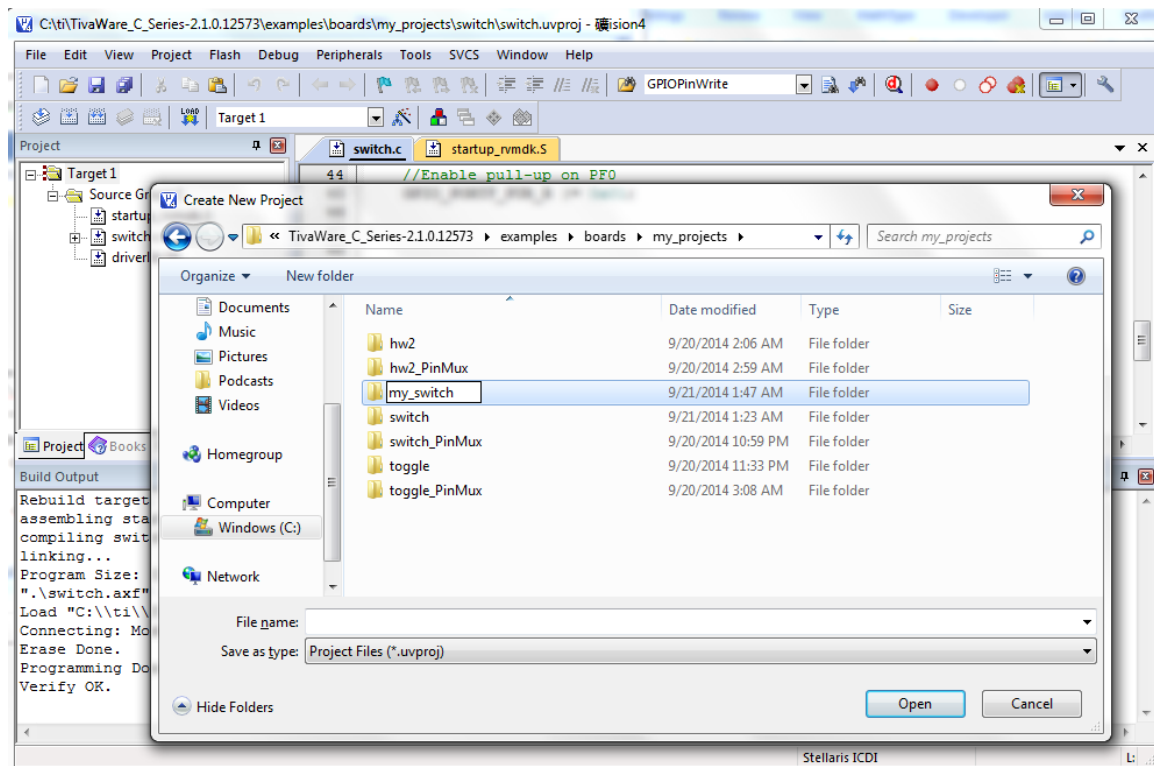
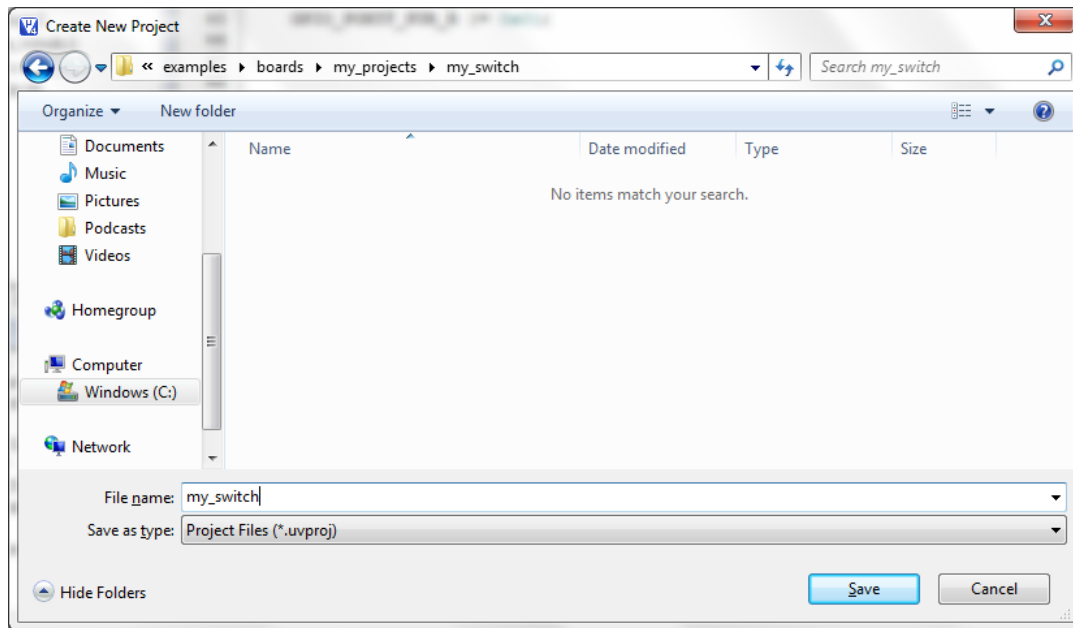

Figure 13
Figure 14
2. The Create New Project dialog box appears (see Figure 13). To use the functions in the TivaWare library, we need to do some configuration. In this example, we create the project within the TivaWare tree by saving it in the existing *C:\ti\TivaWare_C_Series-2.x.x.xxx\examples\boards\my_projects* directory. We first create a new folder named as *my_switch*, and then create the project file *my_switch.uvproj* in the *C:\ti\TivaWare_C_Series-2.x.x.xxx\examples\boards\my_projects\my_switch* directory (see Figure 14) and click “save”.